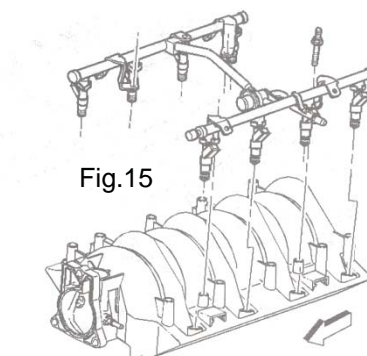

Fig.15
- Fuel rail and injectors (Fig.15). The injectors should remain in the fuel rail. Undo the four studs (10mm hex) and carefully unseat each injector from manifold.